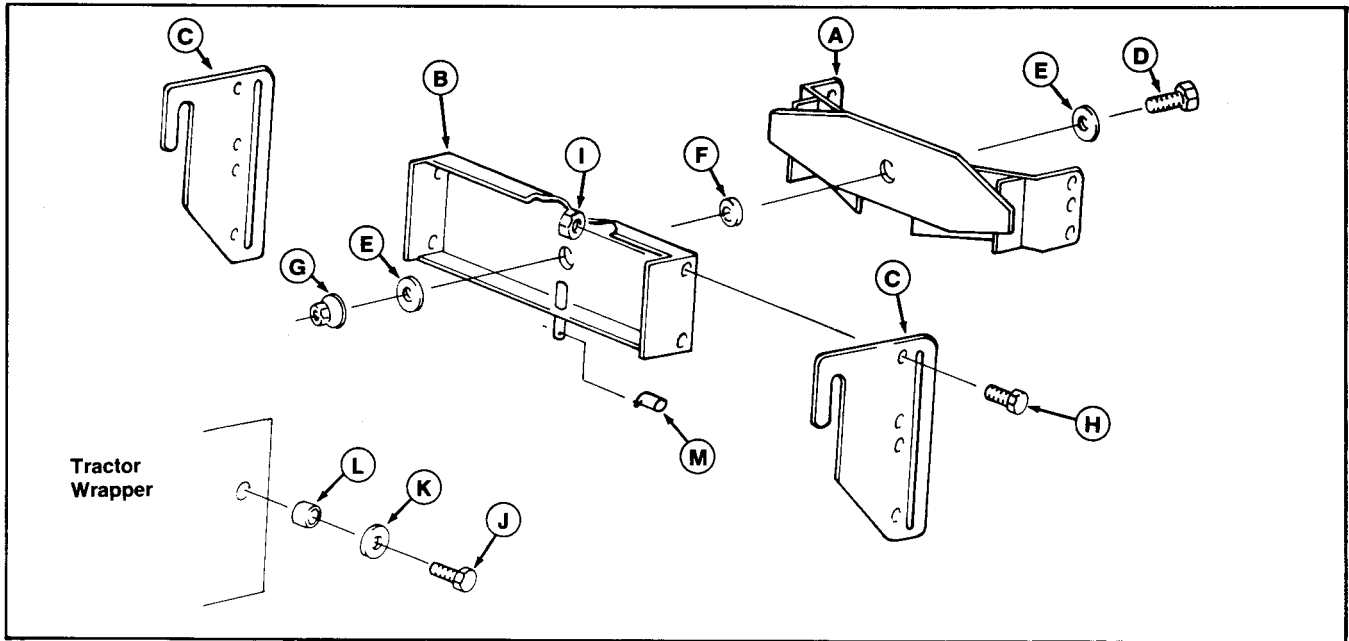

Figure 6
Sort out the hardware and hitch parts. Refer to figure 6.
1. Assemble hitch plate (A, figure 6) to drawbar plate (B) using capscrew (D), flat washer (E) on outside of hitch plate; spacer (F) between two plates; flat washer (E), flange locknut (G) on inside of drawbar plate.